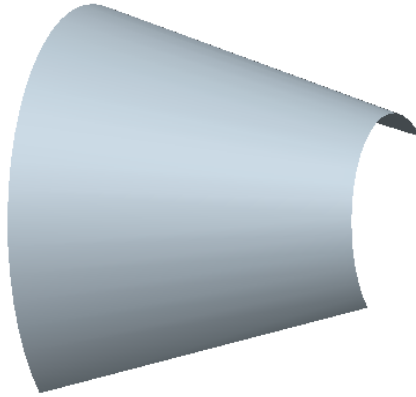

Figure 13-73 Trimetric view of the base feature
13. Choose **OK** from the **SURFACE** dialog box. The base feature is created as shown in Figure 13-73.